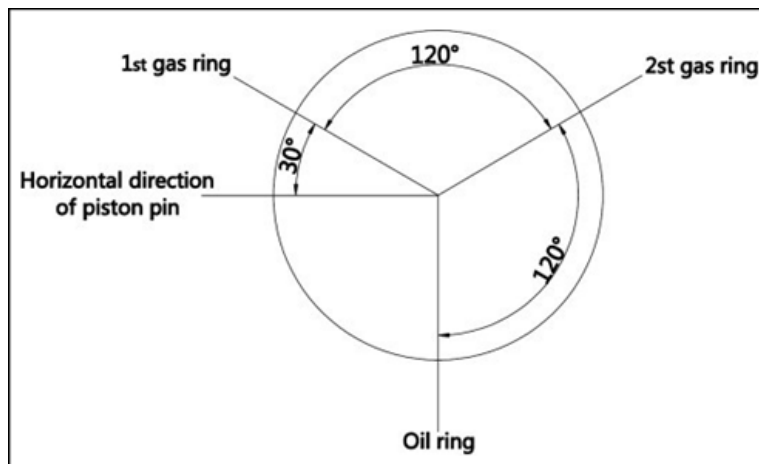

Figure 133.
9. Stagger the piston ring end gaps at 120° intervals (Figure 133). Do not position the top piston ring end gap in line with the piston pin.